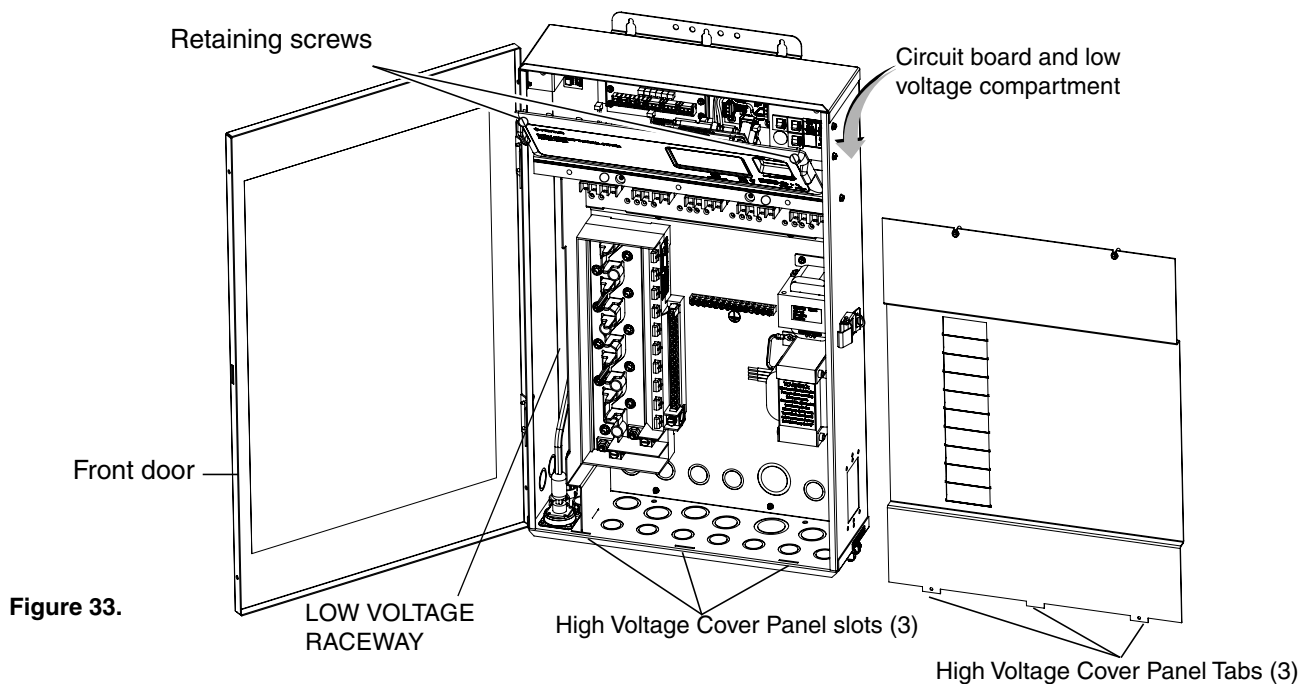

Figure 33.
2. Unlatch the front door latch and open the front door. Remove the two retaining screws from the High Voltage Cover Panel and remove the panel. See **Figure 33**.
9. Secure the panel with the two (2) retaining screws. Close the front door and secure with the latch. See Figure 33 on page 34.